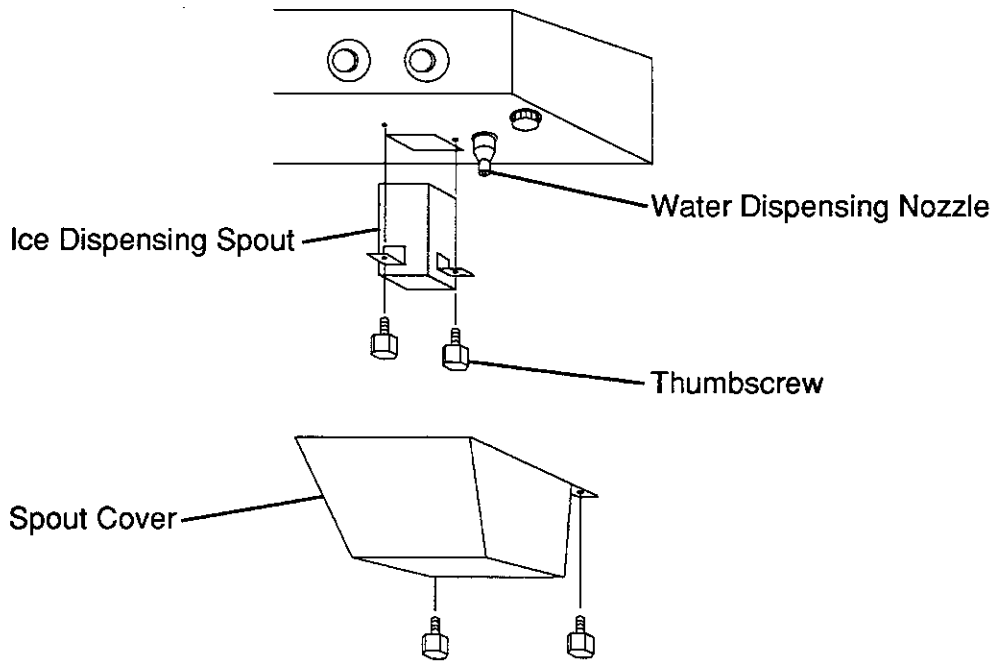

Fig. 7
- 6) Remove the Spout Cover and the black Ice Dispensing Spout and the Water Dispensing Nozzle. See Fig. 7.